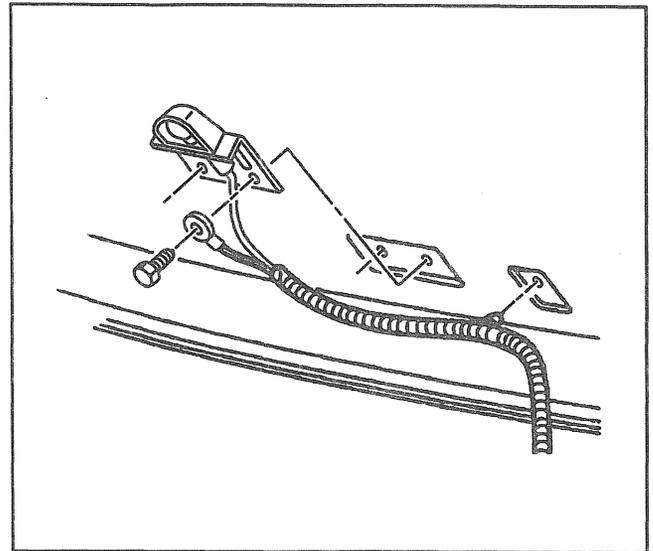

Figure 27—Underhood Stationary Lamp
#### Remove or Disconnect (Figure 27)
**↔ Install or Connect (Figure 27)**